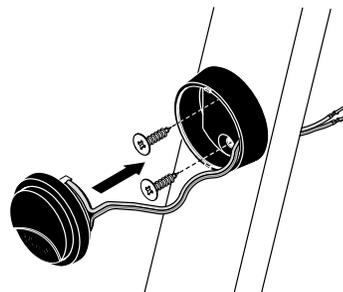

Figure 1. After installing the surface-mount plate, push the Kappa10.1t onto the mounting plate to snap it into place.
- For best treble response when tweeters are flush mounted in the I-Mount™, aim them at the listening position by adjusting the tweeter angle in the cup, tightening the small metal locking nut behind the assembly and rotating the entire assembly in its mounting location before tightening the large plastic locking nut behind the panel (see Fig 1, p.2).